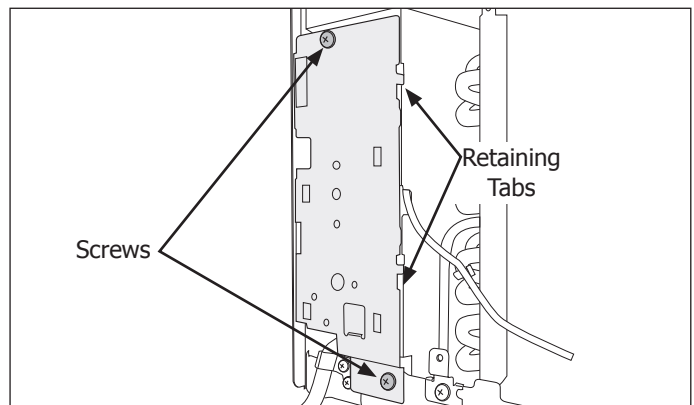

Figure 4-112.
3. Extract the screws from front of control panel mounting bracket. (See Figure 4-112)